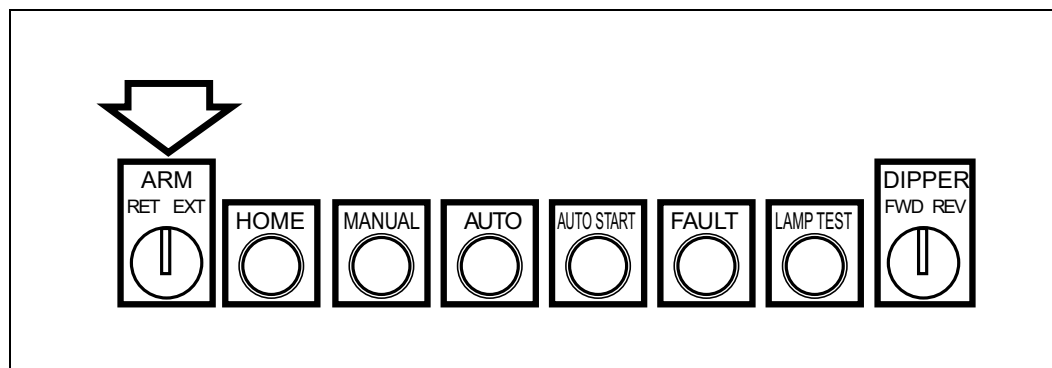

Figure 7-19: Manual Controls
1. Use the ARM RET/EXT switch on the Manual Controls (Figure 7-19) to move the arm behind the Clear Position.